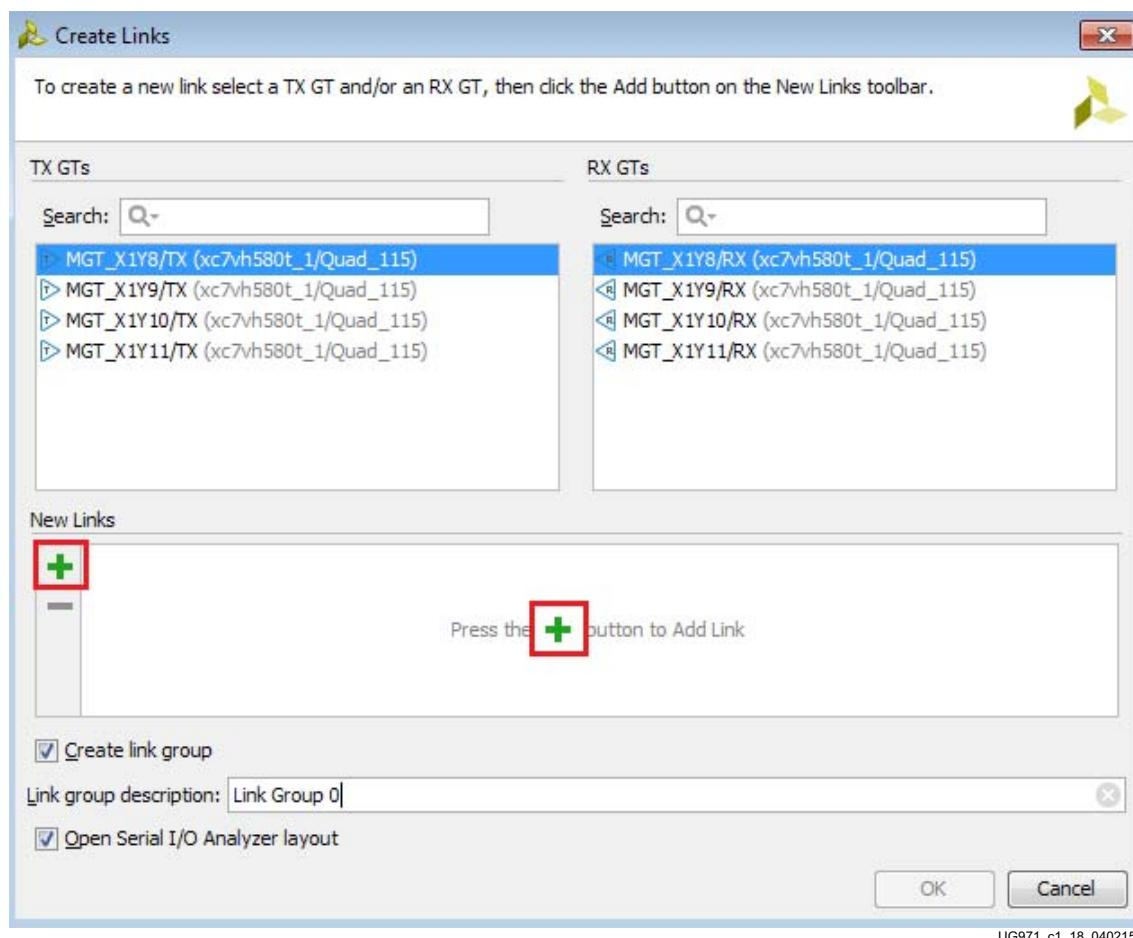

Figure 1-18: Create Links Window
6. If links are created manually, the Create Links window is displayed. The options in this window are used to link any TX GT to any RX GT. To create links, select the TX GT and RX GT from the two lists, then click the **Add Link** button. For this project, connect the following links (Figure 1-18):